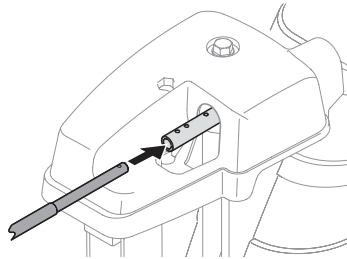

Figure 2-30
2. Insert round end of chute control rod into chute control head. Push rod as far into chute control head as possible, keeping holes in rod pointing upward. See Figure 2-30.